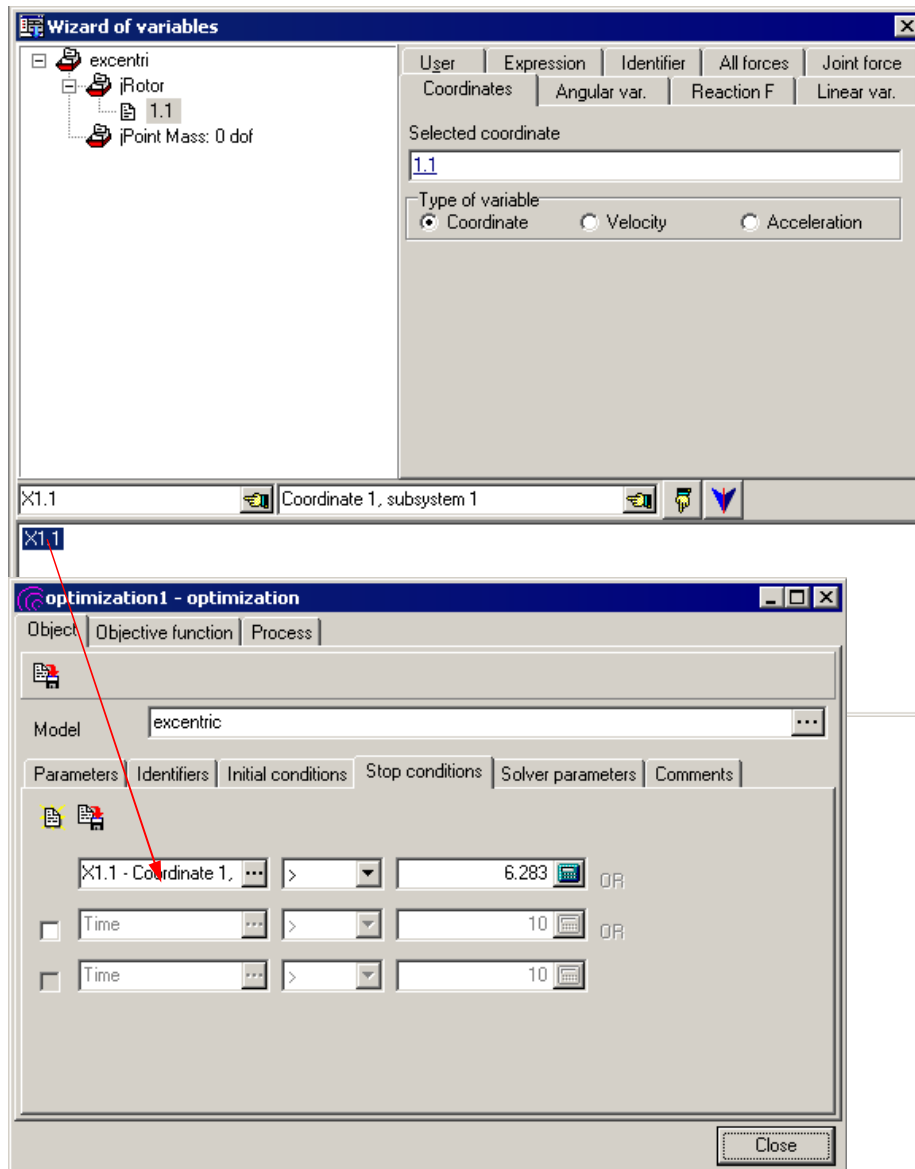

Figure 5.9. Optimization project: stop conditions
2. Open new **Wizard of variables** (**Tools / Wizard of variables** menu item). Create new variable corresponding to the 1.1 coordinate as it is shown in Fig. 5.9 and drag this variable to the corresponding box in the optimization project, see Fig. 5.9.